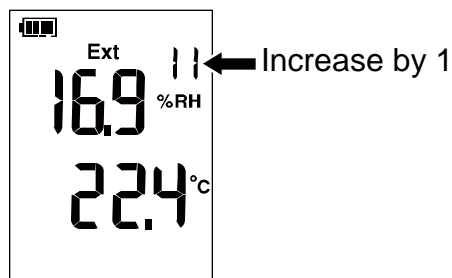

Figure 7. Save Measurement Data
2. Release  when the number of the storage location increases by 1, as shown in Figure 7.